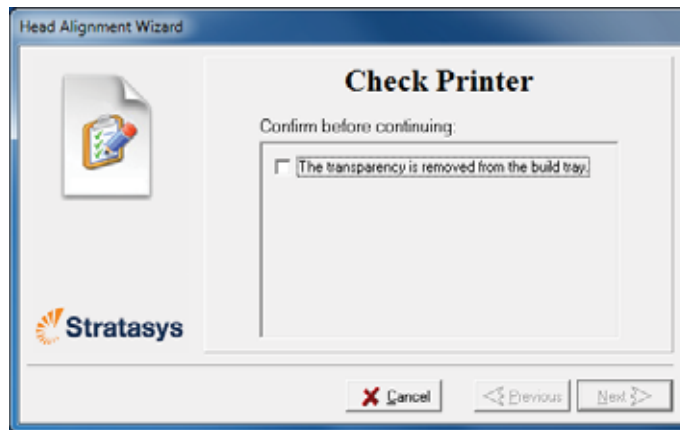

Figure 6-42: Head Alignment wizard—steps 8–10
10. In the wizard screen shown in figure 6-42, select the *Transparency removed* check box, and click *Next*.